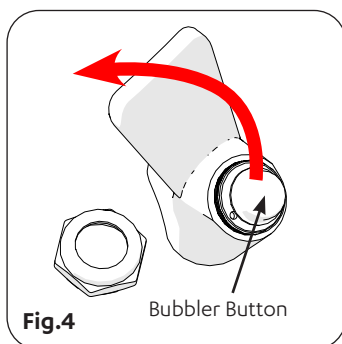
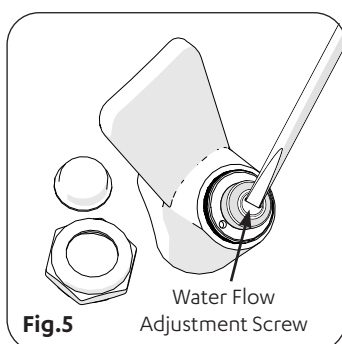

Fig.4
Fig.5
- Use a small, flat screwdriver to adjust the Water Flow Adjusting Screw until the desired water flow is achieved (see Fig.5).
2. Remove the button to expose the Water Flow Adjustment Screw (Fig.4). Use a small, flat screwdriver to remove this screw (Fig.5).